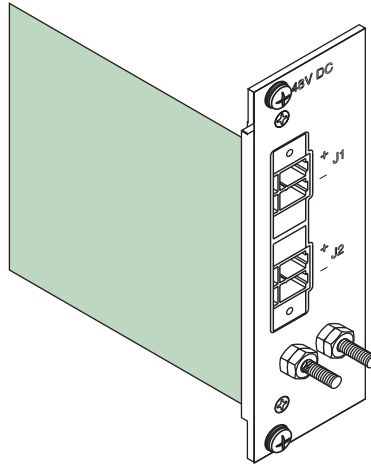

Figure 5. DC rear power entry module (2 per Model 6676)
A set of 3U slots allocated for two Patton Model 6112/HOR (DC) rear power entry modules (see figure 5).